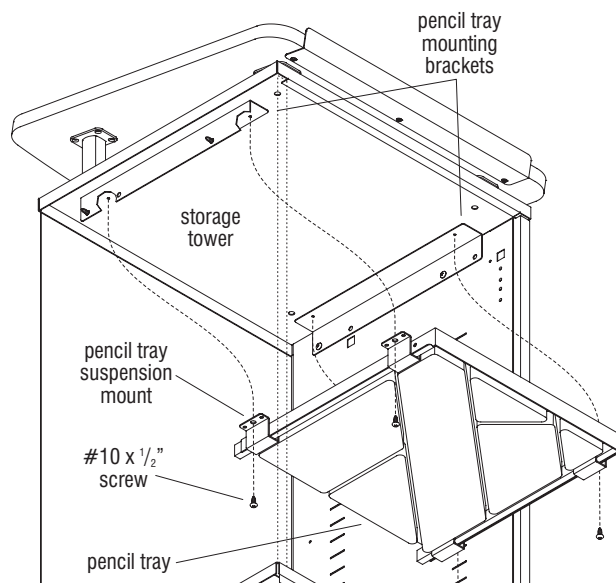

Figure 10
3. Position the pencil tray inside the storage tower between the two pencil tray mounting brackets. Align each pencil tray suspension mount hole with the mounting bracket holes and secure using four #10 x 1/2" screws (Figure 10).